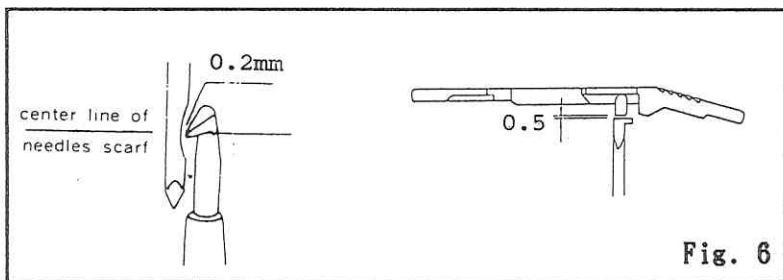

Fig. 6
4. Fasten the needle-bar screw (SA26), put the needle bar protective cover (A101R) back, and then readjust the clearance between the needle and looper (A300) according to Fig.6.
4. Ajuste el tornillo (SA26) (seguro de aguja), ver la Fig.6.
4. Aperte o parafuso da barra de agulha (SA26) e reajuste a folga (A101R) entre a agulha e o looper (A300), de acordo com a Fig.6.
, ver la Fig.6.